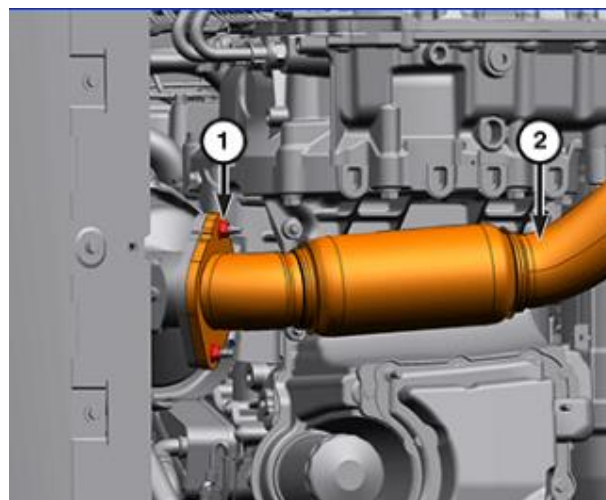

Figure 16 – Crossunder Pipe
6. Remove the crossunder pipe flange nuts (1) (Figure 16).
16. Install the crossunder pipe to the catalytic converter and tighten the nuts to 32 N·m (24 ft. lbs.) (Figure 16).